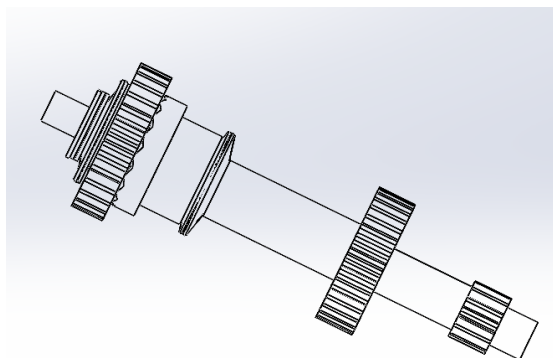

Figure 5.19
5.6.4 When the clutch is pulled, you will be shown in this configuration (Fig.5.19);